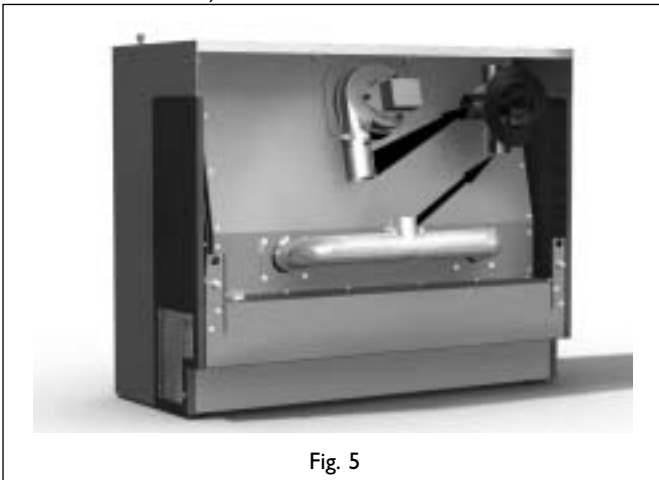

Fig. 5
- The 16kW Power Flue has 2 combustion air supply connections on the appliance. They should both be connected and be combined by means of a T-joint (see fig. 5).